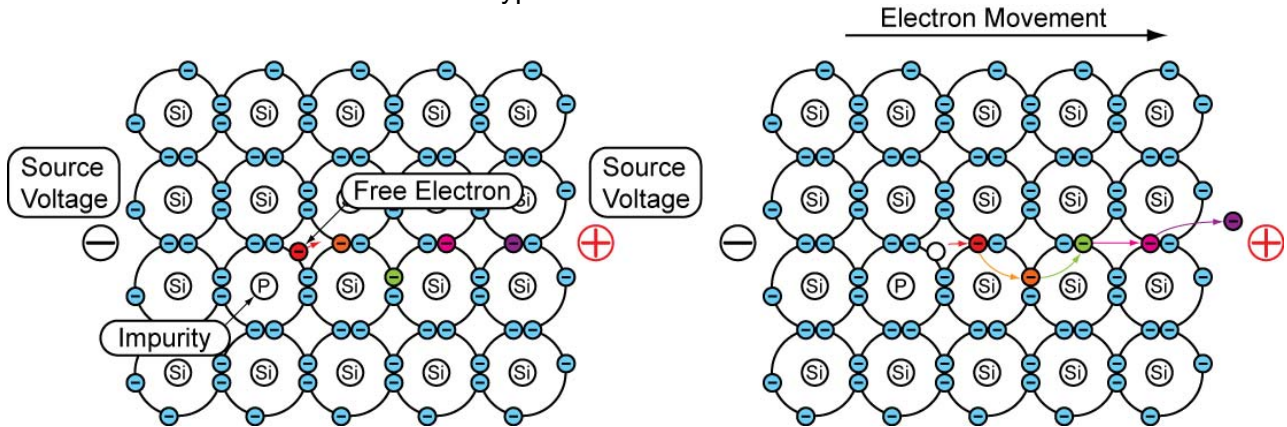

Figure 2: Electron Movement in n-type Semiconductor - Impurities Contribute Free Electrons for Current
- Impurities such as arsenic (As), phosphorus (P), bismuth (Bi), or antimony (Sb) can replace silicon atoms in the crystal structure (a process called doping). These atoms have five valence electrons; the fifth electron easily detaches from this “donor” atom and becomes a conduction electron (Figure 2).